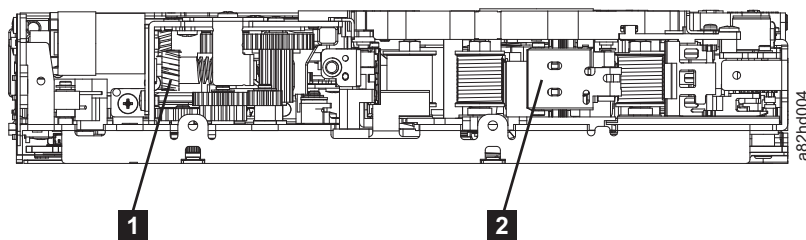

Figure 43. Leader block assembly (LBA)
- Rotate the loader intermediate gear (**1** in Figure 43) clockwise as viewed from the front of the drive until it stops. This action releases the LBA leader pin.
- Rotate the threader motor worm gear (**3** in Figure 43) counterclockwise until the leader block is in front of the read/write head. This action moves the LBA out of the cartridge.
8. Rotate the loader motor worm gear ( **3** in Figure 43 on page 103) counterclockwise as viewed from the front of the drive until it stops.